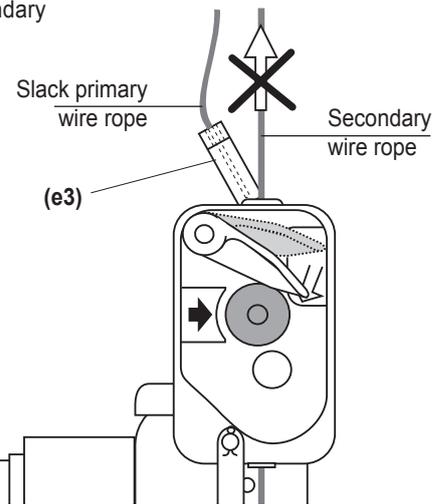

Figure 55
- II At ground level first close the BSO secondary brake by pushing emergency stop button (d2). Then push Control lever in DOWN-position and make the wire rope form a loop between tirak™ casing and BSO secondary brake (Fig. 55). Open BSO secondary brake by pulling down control lever (e1) until it locks in the open position.
Lower the platform to check that the BS/BSO secondary brake holds the load. A loop should form as shown in Fig. 55, which means the BS/BSO is supporting the load.